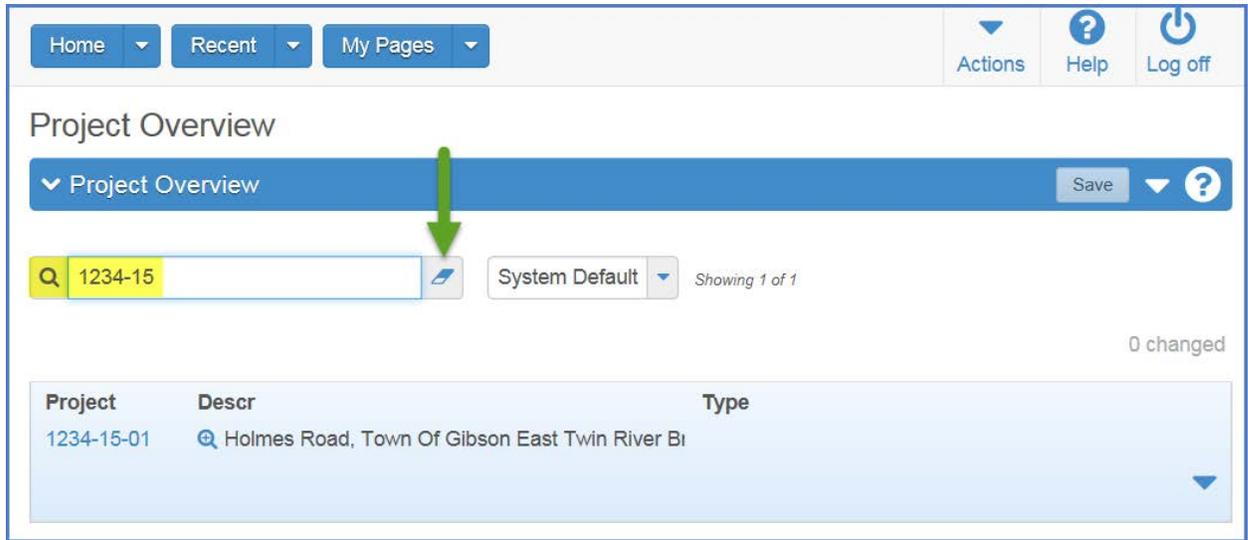

Figure 13
1. Staff can use the search box to narrow the list of options (*Figure 13*). After entering three (3) characters, the system begins searching for the string. Enter more characters to narrow down the search to something more specific. Use the eraser icon to delete the data entered and begin a new search.